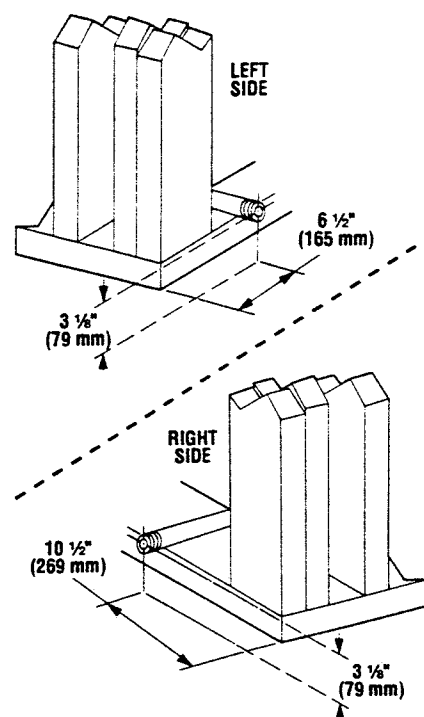

Figure 8
Step 2. Route gas line (*Figure 8*) using techniques and materials prescribed by local and/or national codes. Only use gas line of 1/2" or greater diameter to allow full gas volume to the gas fireplace. Undue pressure loss will occur if the pipe is too small.